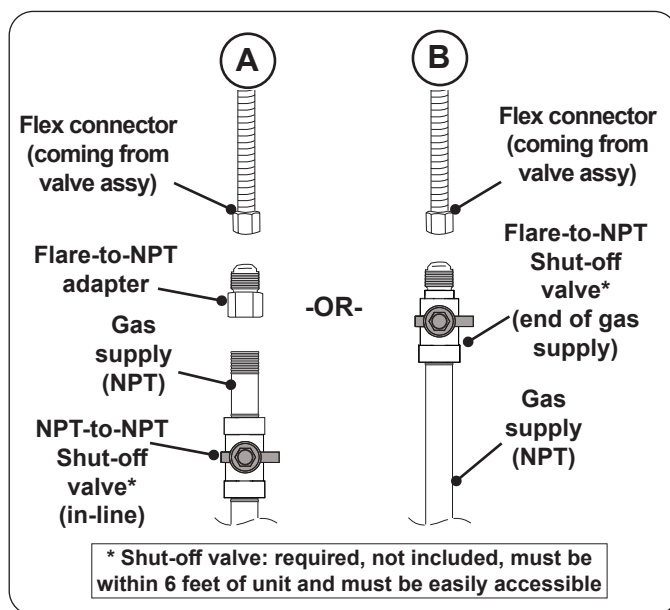

Fig. 33-1 Connecting to a gas line
- Install the supplied flare-to-NPT adapter to the gas supply (NPT) using a pipe joint compound resistant to all gasses (see Fig. 33-1, A). Tighten securely.
- Connect the flex connector to the adapter (see Fig. 33-1, A). Tighten securely.
- Connect the flex connector to the shut-off valve (flare)(see Fig. 33-1, B). Tighten securely.